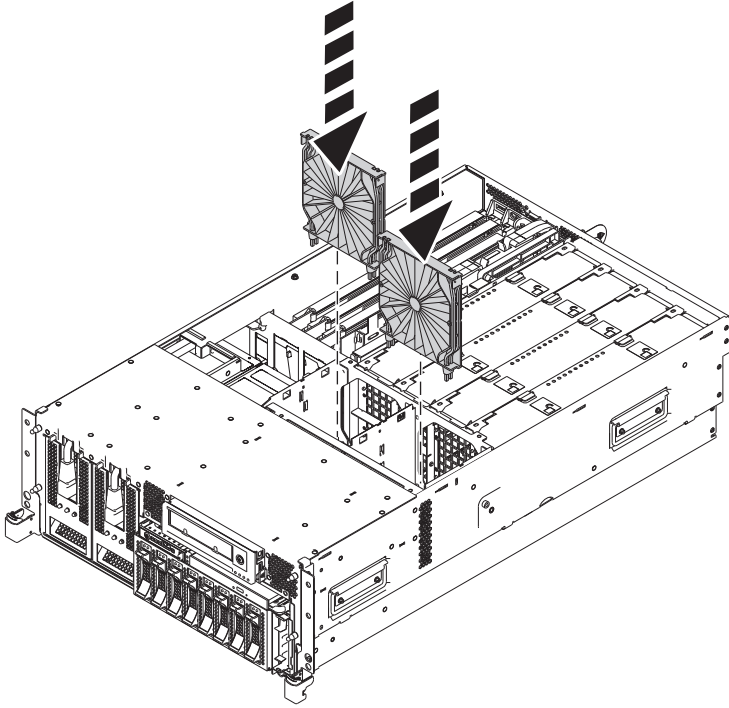

Figure 20. Installing the air baffles in the fan cage
- b. To install the air baffles, insert the air baffles into their locations in the fan cage, and push down until they lock into place, as shown in Figure 20 on page 37.